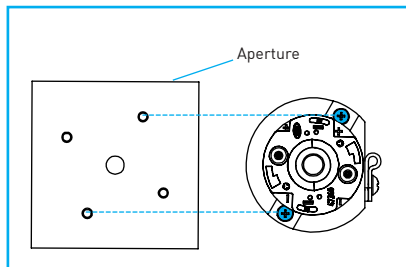

Fig.51
F. Raise LED engine into the trim aperture and tighten screws using supplied #1PH screwdriver “Fig.51”.
K. Raise LED engine into the trim aperture and tighten screws using supplied 7/64” Allen wrench “Fig.51”.